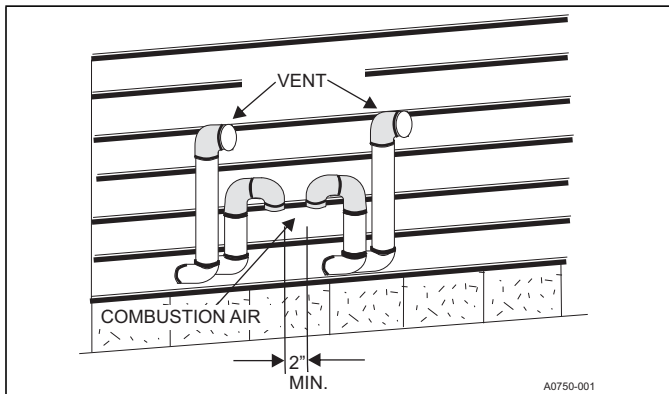
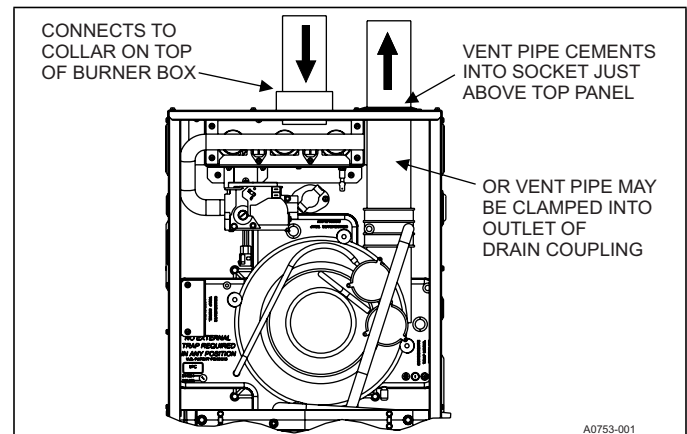

FIGURE 32: Double Horizontal Combustion Air Intake and Vent Term.
FIGURE 35: Direct Vent Air Intake Connection and Vent Connection
The combustion air side of the two-pipe configuration shown in Figure 35 can be installed so the combustion air pipe terminates as described in outdoor combustion air or ventilated combustion air sections in these instructions. Follow the instructions for outdoor combustion air or ventilated combustion air and the instructions for installing the vent system with the vent terminating as shown in Figures 32 or 33. The two-pipe system must have a separate combustion air pipe and a separate vent pipe for each furnace. Under NO circumstances can the two combustion air or vent pipes be tied together. The combustion air and vent pipes must terminate in the same atmospheric zone.
1. **OUTDOOR COMBUSTION AIR:** This is a direct vent configuration where the combustion air is supplied through a PVC or ABS pipe that is connected to the PVC coupling attached to the furnace and is terminated in the same atmospheric zone as the vent. This type of installation is approved on all models. Refer to Figure 35.
This installation requires combustion air to be brought in from outdoors. This requires a properly sized pipe (Shown in Figure 35) that will bring air in from the outdoors to the furnace combustion air intake collar on the burner box. The second pipe (Shown in Figure 35) is the furnace vent pipe.